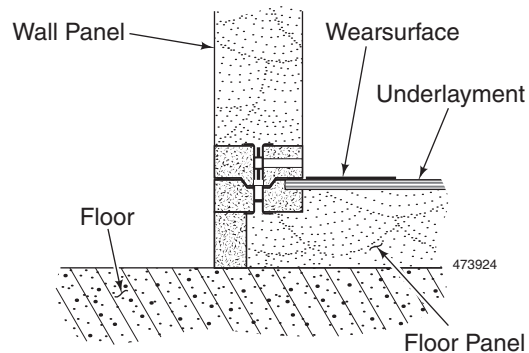

Figure 11. HD floors with diamond tread
**Heavy Duty Floors** – Heavy duty floors may require the installation of diamond-tread wearsurface and plywood underlayment in the field. These are generally installed after the unit is erected. See construction details on Shop Prints. See Figure 11.